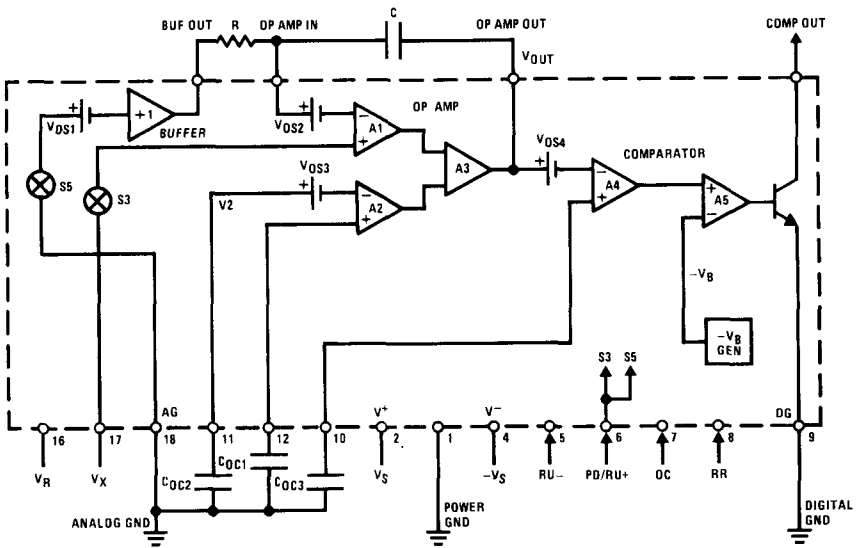

FIGURE 2. Polarity Determination Circuit or Ramp Unknown Circuit for  $V_X \geq 0$
**Polarity Determination (Figure 2)**
The simplified diagram of the LF13300 in the Polarity Determination state is shown in Figure 2. S5 and S3 are closed during this period. S5 grounds the buffer input and  $V_X$  (the unknown voltage) is applied through S3 to the non-inverting input of A1. The equation that describes the op amp output voltage is given in Figure 2. When  $V_X$  is applied to A1 at  $t_1$ , the output of the op amp slews to  $V_X$  and is integrated until  $t_2$ , when S3 opens and S4 closes. At  $t_2$ ,  $V_{OUT}$  slews down by  $-V_X$
**Ramp Unknown (Figures 2 and 3)**
In the Ramp Unknown state, if  $V_X \geq 0$ , S3 and S5 are closed, as shown in Figure 2, and  $V_X$  is applied to the